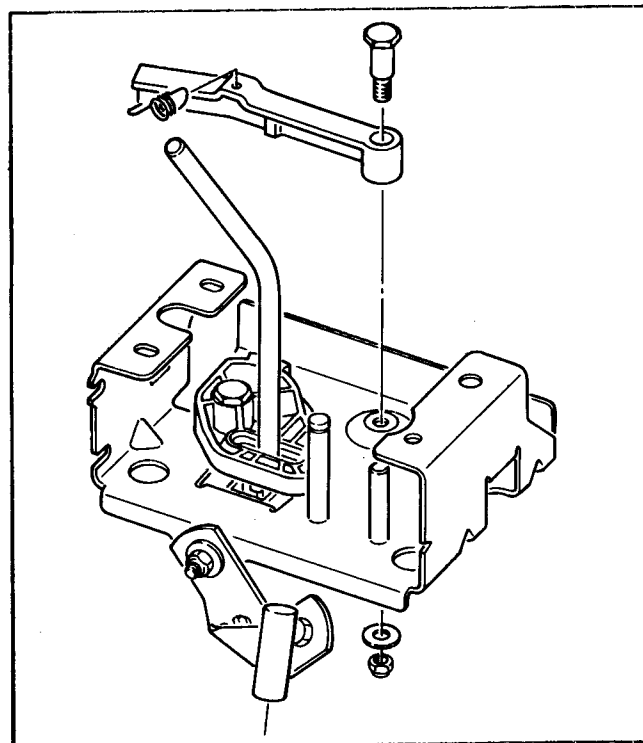

Figure 36
6. Mount the shift lockout lever to the power shift control box using the shoulder bolt, flat washer and nylon locknut. See Figure 36.